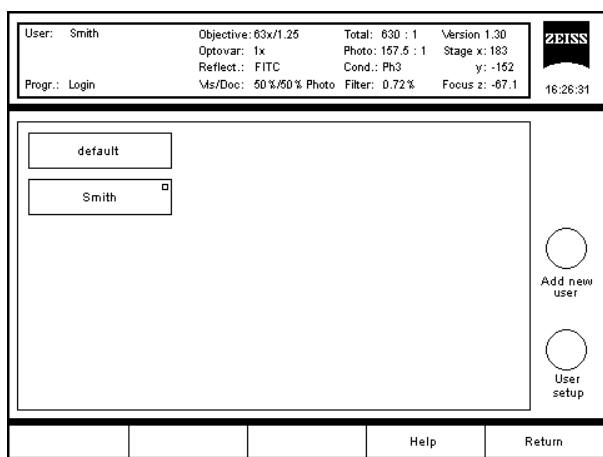

Fig. 51 Login Screen
- Click on the button with your name to switch to your own special user interface (Fig. 51).
Fig. 51 shows the menu in which you can log in to the system as a registered user.